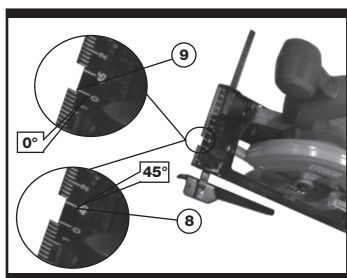

Fig 5
3. CUTTING GUIDE (See Fig.5)
Loosen the base plate bevel lock button (6) and rotate the base plate (11) to set the bevel angle using the base plate angle scale (5) provided. Then clamp the base plate (11) position using the lock (6) (See Fig. 5). Finally, check the angle and ensure the base plate is firmly clamped. The angle scale (5) on the base plate (11) are accurate for most general purposes but it is recommended for accurate work to set the angle with a protractor and make a test cut on other material. Do not use the depth of cut scale when making bevel cuts due to possible inaccuracy.